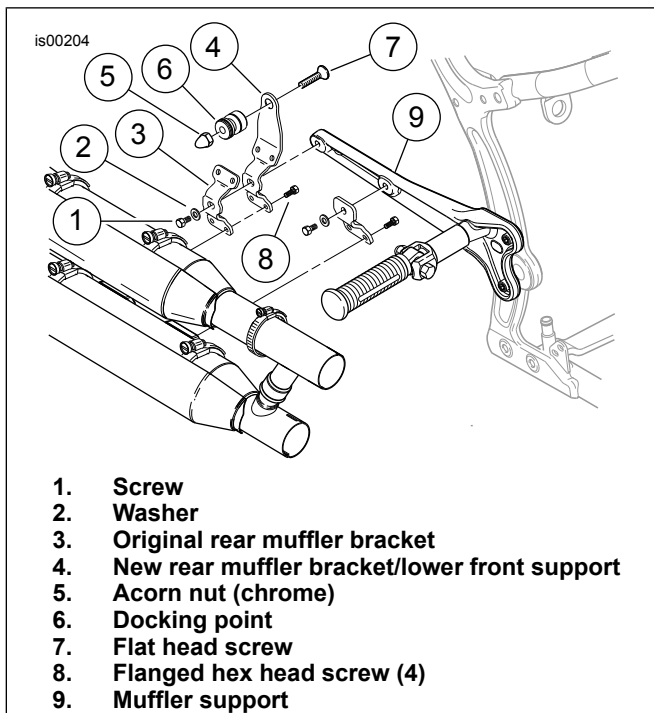

Figure 4. Lower Front Saddlebag Support (Right Side With Shotgun Exhaust)
1. See Figure 4. Remove the four flanged-head hex screws (8) holding the rear muffler bracket (3) to the front and rear mufflers.
2. Remove the screw (1) and washer (2) holding the rear muffler bracket (3) to the muffler support (9).
- the muffler bracket/ lower front support (4),
- one docking point (6),
- a flat head screw (7),
- a chrome acorn nut (5).
4. Position the new muffler bracket/ lower front saddlebag support (4) as shown, and install **in place of** the stock rear muffler bracket (3) with the same screws (8) removed earlier. Do not fully tighten at this time.
5. Loosely install the screw (1) and washer (2) to attach the new muffler bracket to the muffler support. Tighten screw (1) to 20.3–25.8 N·m (15–19 ft·lbs). Tighten the four screws (8) securely. Proceed to instructions under "**Saddlebag Installation**".